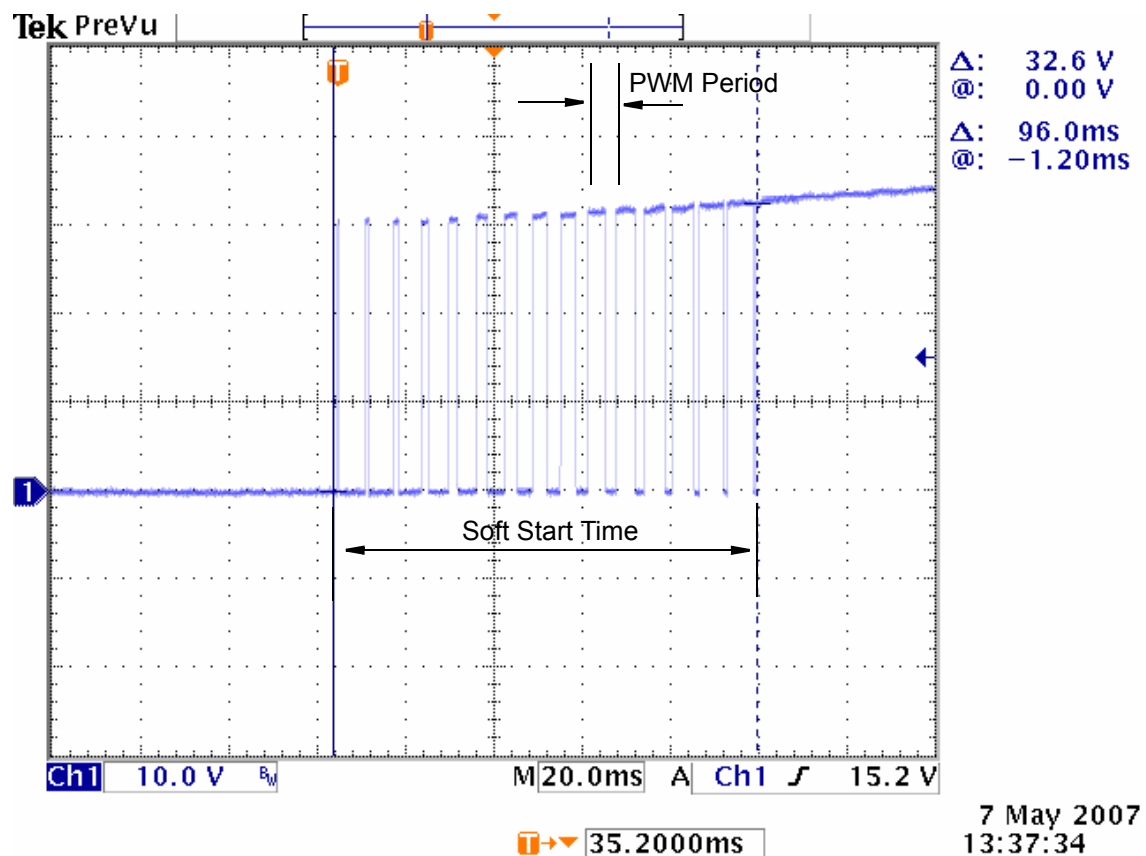

Figure B-1. Typical Soft Start Cycle on DIO-433
B.1 PWM Soft Start The DIO-432/433 series offer a per-channel configured pulse-width-modulated (PWM) start/stop mode. Refer to **Figure B-1** for a trace of a typical soft-start of the output (rising edge) configured for a transition of 16 PWM period steps with the period set to approximately 6 mS.
In soft start/soft stop modes, (`DQDIO432_PWM_SOFTSTART`, `DQDIO432_PWM_SOFTSTOP`, and `DQDIO432_PWM_SOFTBOTH`), the duty cycle variable is used to set the number of PWM periods. For example, if `<duty_cycle == 16>` the output produces 16 PWM periods upon changing state, from 1/16 duty cycle to 16/16 (or 100%). Refer to **Figure B-1**.